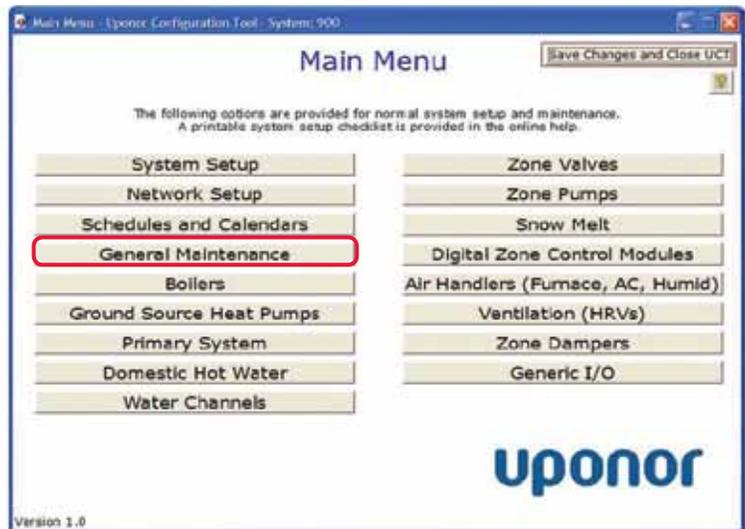
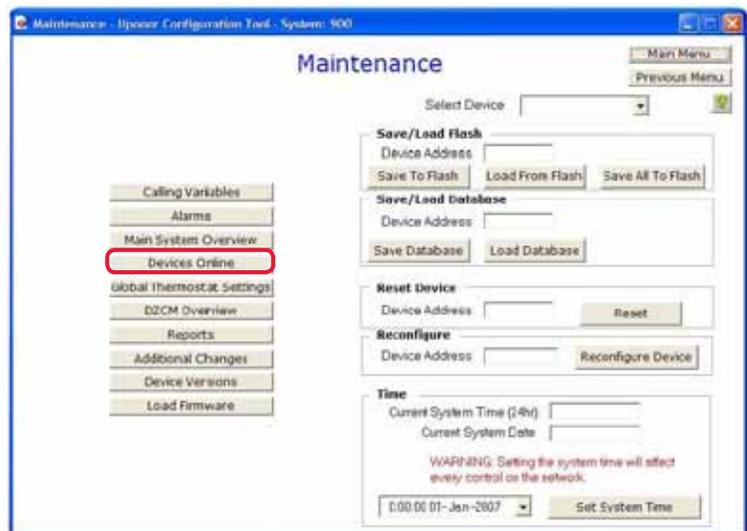

Figure 4.4-1: Main Menu Screen
Figure 4.4-2: Maintenance Screen
1. From the **Main Menu**, click the **General Maintenance** button shown in **Figure 4.4-1**. This displays the **Maintenance** screen shown in **Figure 4.4-2**.